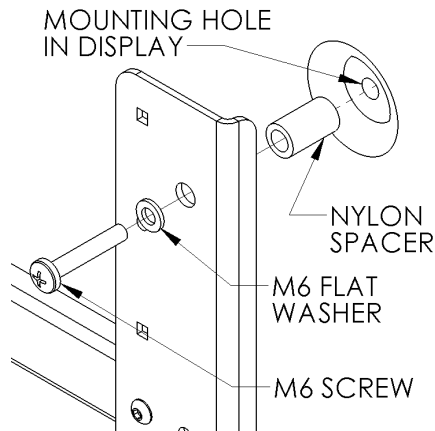
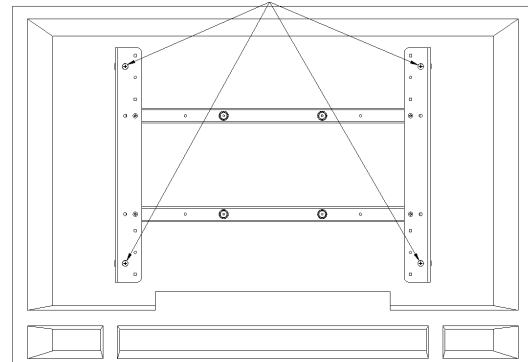

Figure 8
Figure 9
5. **Bracket Installation:** Place nylon spacers over mounting holes of screen and attach brackets to back of display using the M6 screws (see Figure 8 & Figure 9). Do not over tighten screws.